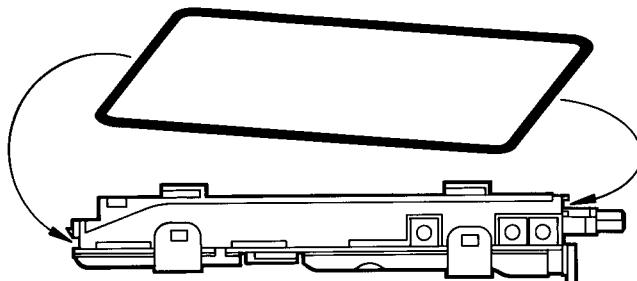

Figure 1-14. Replace Gasket
- Replace chassis gasket (Figure 1-14).